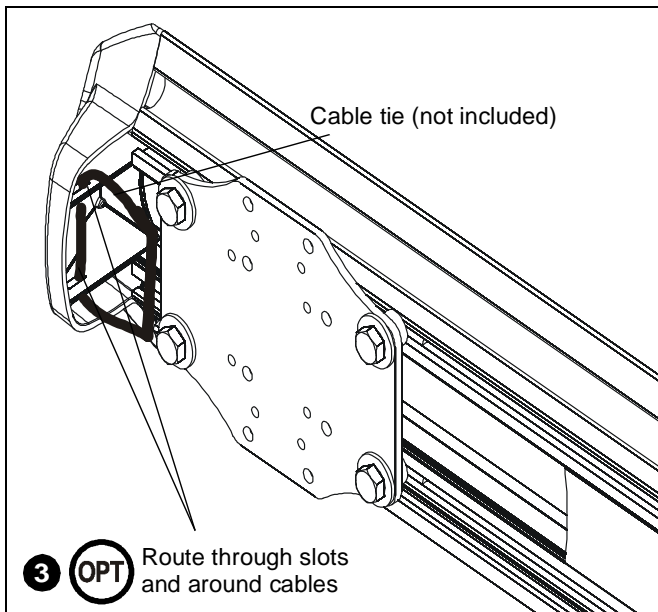

Figure 25
3. **(Optional)** Cables can be tied to inside of projector's front cover using cable ties (not included). Route cables near front cover and wrap cable tie through slots on front cover and around cables. (See Figure 25)